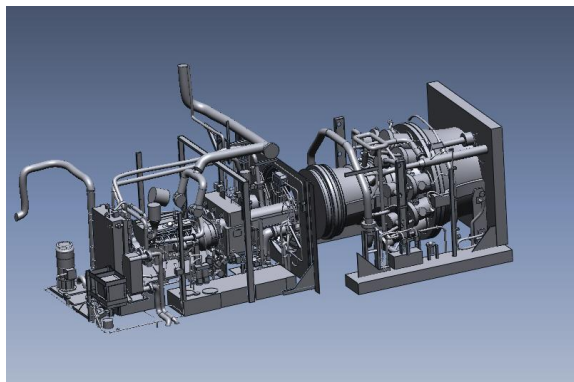

Figure 2 – High Detail Modeling
- Each and every tube, wire, and fuel line was modeled. (Figure 2)